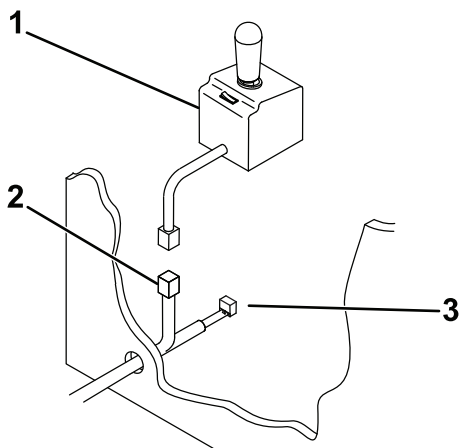

Figure 1
8. Pull the plow controller connector and module connector (10-pin Molex Minifit) into the vehicle cab through the hole in the firewall (Figure 1).